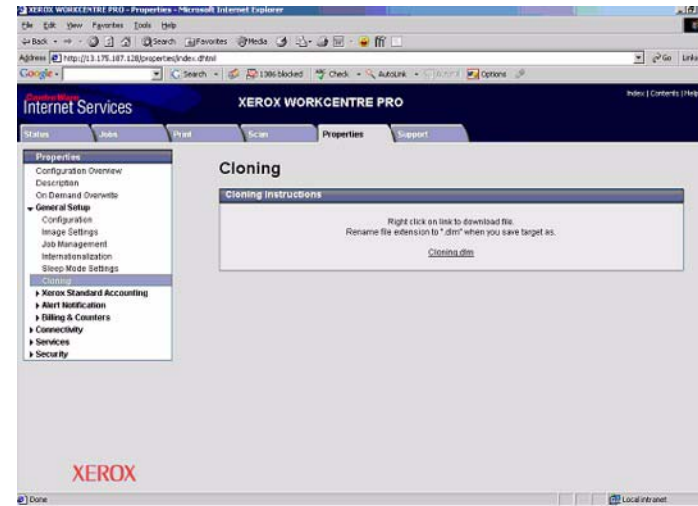

Figure 3 Saving the Clone File
- Right click on **Cloning.dlm** to save the clone file (Figure 3).